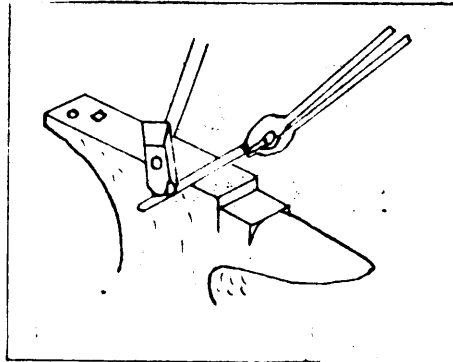

Figure 2.
3. Place stock on face of anvil and extend the stock over the side to the point marked. (Figure 2).